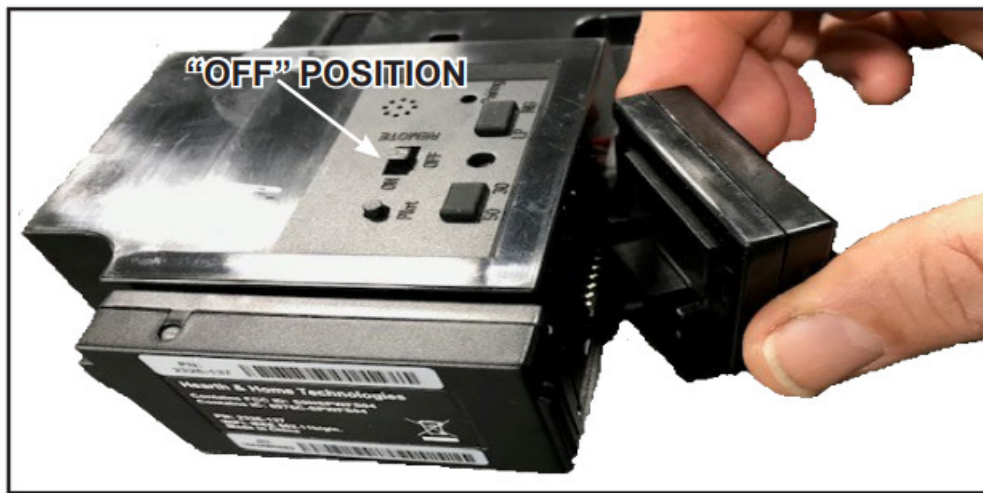

Figure 1 Connect IFT2-RFM to IFT2-ECM
2. Locate the IntelliFire Touch electronic control module (IFT2-ECM) in the control cavity of the appliance and move the three-position switch to the OFF position. See Figure 1.
3. Connect the RFM to the ECM by aligning the pins and tabs and pushing the RFM into the ECM until both tabs snap into position. Ensure the two components are fastened securely to one another. Be sure to power down the ECM before inserting the RFM. See Figure 1.